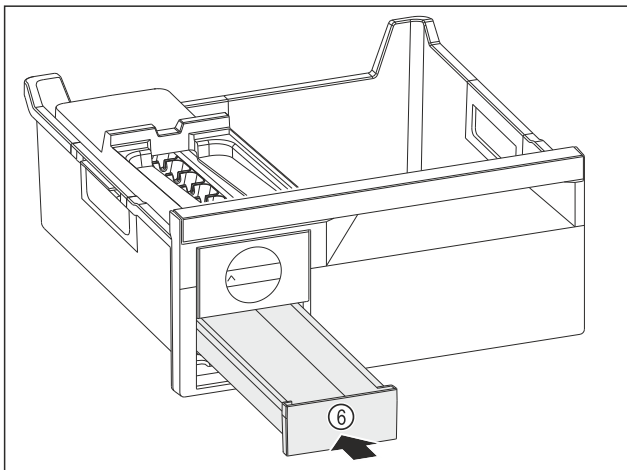

Fig. 163
- Insert the ice cube drawer Fig. 163 (6).